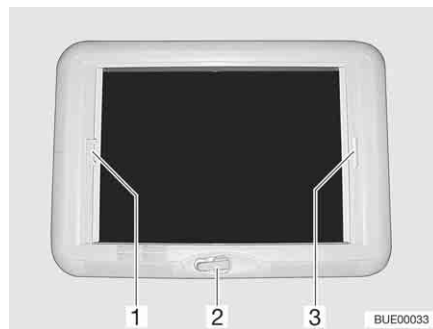

Fig. 81 Wind-up skylight
*Opening:* ■ Rotate the hand crank (Fig. 81,2) until a resistance can be felt (max. opening angle 70°).
*Closing:* ■ Pull the handle of the Roman shade (Fig. 81,3) and release in the desired position. The Roman shade will stay in that position.
*Closing:* ■ Pull the handle of the insect screen (Fig. 81,1) and release in the desired position. The insect screen will stay in that position.